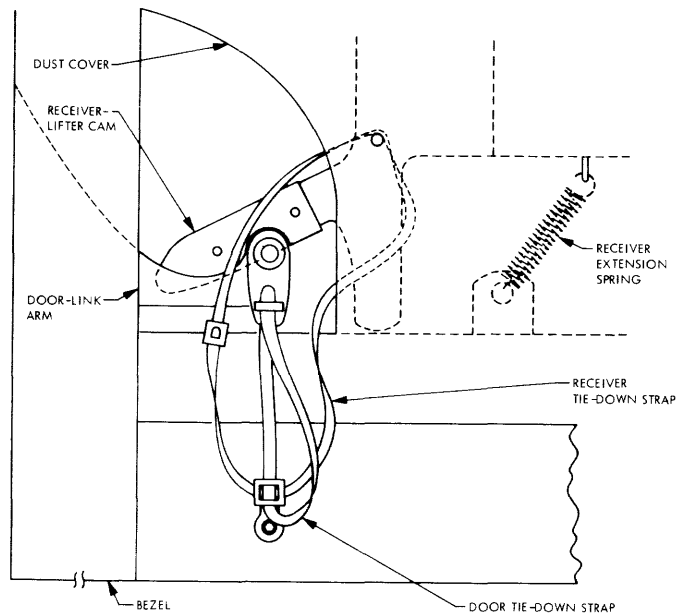

Figure 2-1. Cartridge Receiver and Front Door Shipping Restraint
- (6) Remove the polyethylene bag that surrounds the unit; remove the dust cover as follows.
- (v) Remove the two tie-down straps used to secure the front door and cartridge receiver during shipment. Figure 2-1 shows the relationship of these restraints to the shipping frame and disk drive.